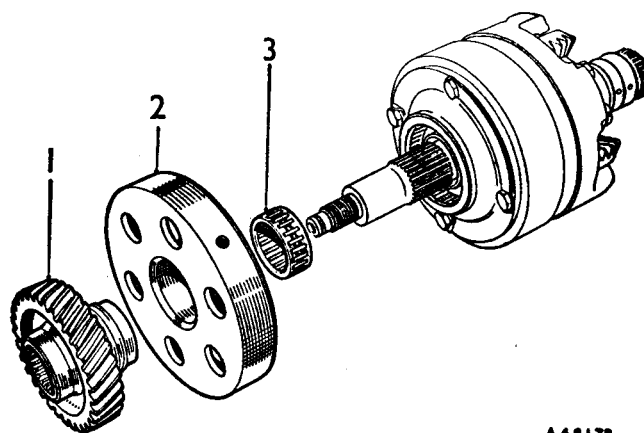

Fig. Fa.47
- 5. Remove the input gear, and pull off the first gear free-wheel reaction member and needle-roller bearing (Fig. Fa.47).